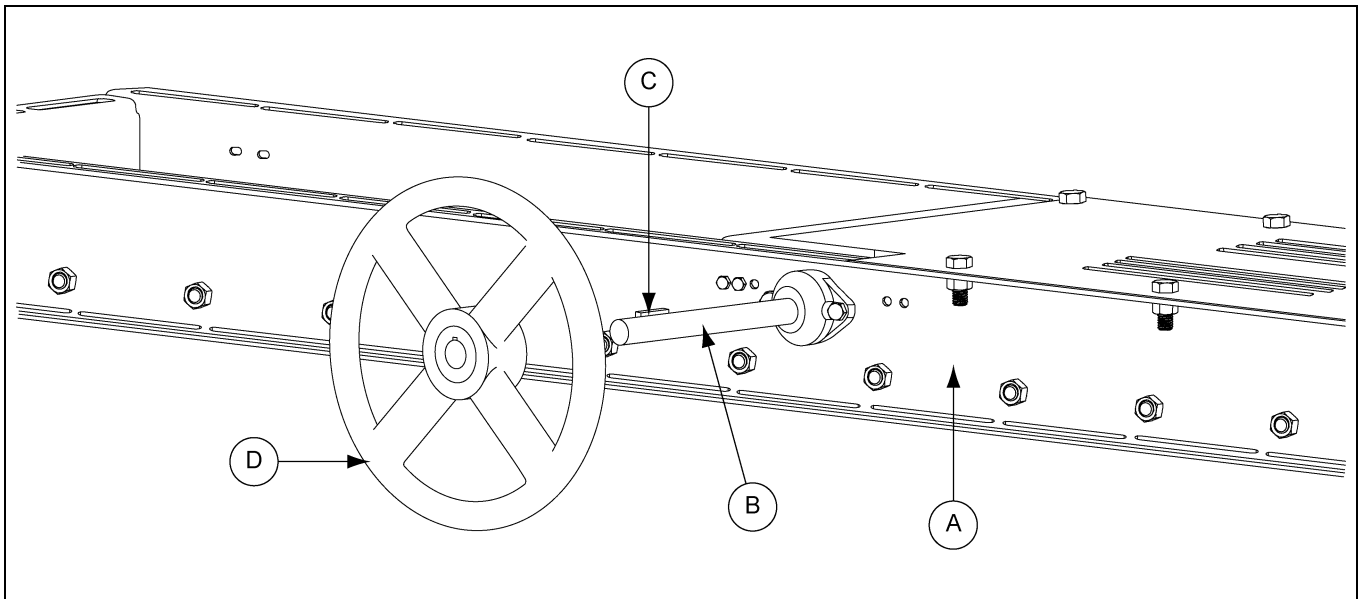

Figure 3C Manual Gate Installation
1. Install the specified wheel to the shaft by aligning the key (C) and key way, then tighten the set screw. This gate can be operated by a chain, cable or hand wheel (D). (See Figure 3C.)